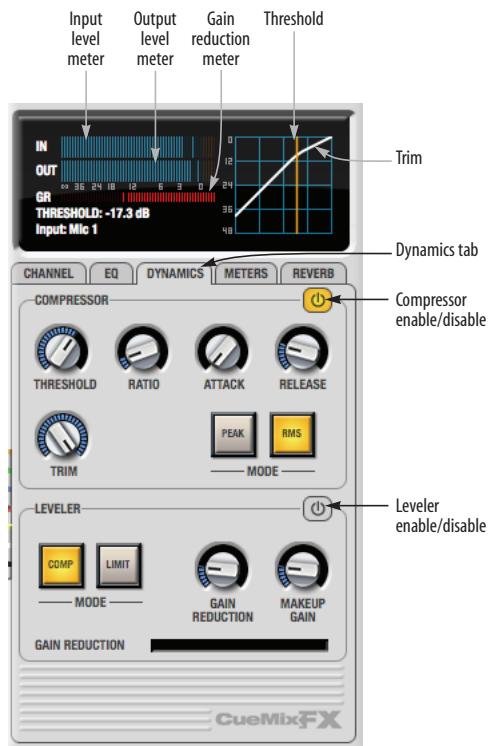

Figure 11-21: The Dynamics tab.
The Dynamics tab (Figure 11-21) displays the Dynamics processing settings for the input or output channel that currently has the focus. Click any focus button in the Inputs or Outputs tab to view the Dynamics tab settings for the channel.
Each input and output channel has a global *Dynamics enable/disable* button (Figure 11-3 and Figure 11-6). This button enables or disables all dynamics processing for the channel. In addition, the Dynamics tab has two different dynamics processors, the Compressor and Leveler, which can be individually enabled or disabled (Figure 11-21) for the channel.
The *Compressor* (Figure 11-21) lowers the level of the input when it is above the threshold. The amount of attenuation is determined by the *Ratio* and the input level. If the input is 6 dB above the *Threshold* and the Ratio is 3:1, then the output will be 2 dB above the Threshold. When the input level goes above the threshold, the attenuation is added gradually to reduce distortion. The rate at which the attenuation is added is determined by the *Attack* parameter. Likewise, when the input level falls below the Threshold, the attenuation is removed gradually. The rate at which the attenuation is removed is determined by the *Release* parameter. Long Release times may cause the audio to drop out briefly when a soft passage follows a loud passage. Short Release times may cause the attenuation to pump when the average input level quickly fluctuates above and below the Threshold.
The Threshold can be adjusted by turning the Threshold knob or by dragging the Threshold line directly in the compressor graph (Figure 11-21).
The *Input Level* meter (Figure 11-21) shows the level of the input signal before it enters the compressor. It shows either the peak level or the RMS level, depending on which mode is currently chosen.
The Gain reduction (*GR*) level meter (Figure 11-21) displays the current amount of attenuation applied by the compressor.
The *Output Level* meter (Figure 11-21) displays the peaks of the output signal. Trim is applied before the Output Level meter.
The Leveler™ (Figure 11-21) provides an accurate model of the legendary Teletronix™ LA-2A® optical compressor, known for its unique and highly sought-after Automatic Gain Control (AGC) characteristics. The UltraLite-mk3 Leveler faithfully models the LA-2A using the on-board DSP with 32-bit floating point precision.
The *Comp* and *Limit* buttons (Figure 11-21) model the original LA-2A Limit/Compress mode switch. The effect is very subtle, with the Limit option behaving only slightly more like a limiter than a compressor. The switch increases the level of the input to the AGC model and runs the attenuator at a slightly lower level. The Leveler then responds more strongly to transients, but otherwise still behaves like a leveling amplifier.
*Gain Reduction* (Figure 11-21) sets the strength of the signal sent to the AGC model.
*Makeup gain* (Figure 11-21) amplifies the output signal to make up for gain reduction.